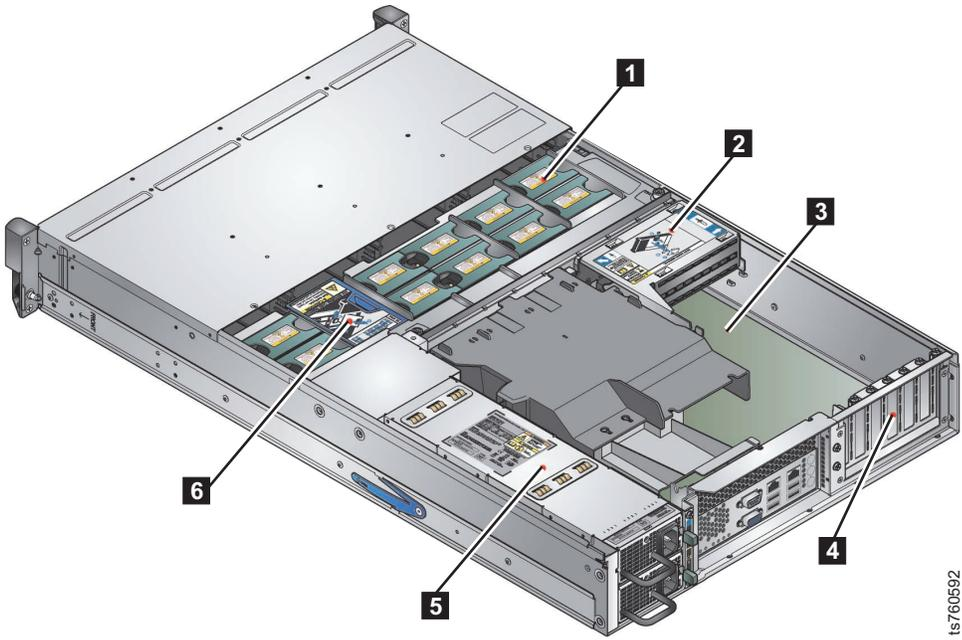

Figure 43. Location of boot drive assembly
4. Refer to Figure 43 on page 68 where **2** shows the location of the boot drive assembly within the chassis.